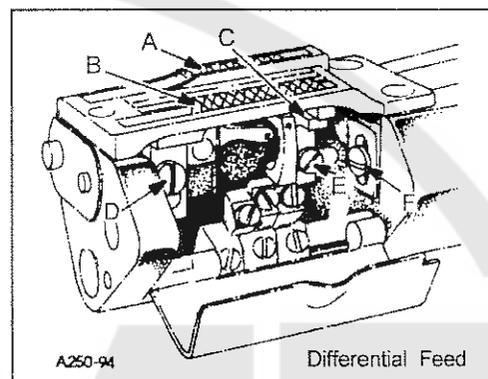

FIG. 11A
Before assembling the main and differential feed dogs, set the feed bar eccentric pin (A, Fig. 10A) located in the left side near center of cylinder, so that the slot in the head is in a horizontal position for the 35800DLU, DNU, and DZ style machines and turned counter clockwise to an approximate 45° for the 35800DWW style of machine. The pin can be used to slightly tilt both feed dogs if necessary. The feed bar pin is retained in position by set screw (B). Assemble differential feed dog (A, Fig. 11A), main feed dog (B) and throat plate. Both the main and differential feed dogs can be individually adjusted to height. Main feed dog (B) at its highest position, should be set to project above the throat plate, the depth of its teeth. If adjustment is necessary loosen screw (D) and move feed dog (B) up or down to attain correct setting. Feed dog support (C) should support front of feed dog.
If adjustment is necessary loosen screw (E, Fig. 11A) in feed dog support (C) and move as required. Retighten screw (E). The differential feed dog (A) may then be leveled with main feed dog (B). If adjustment is necessary loosen screw (F) and move feed dog up or down as required. Retighten screw (F).
NOTE: Should the main feed dog require repositioning due to contact with the throat plate in its forward or rearward travel, loosen set screw (C, Fig. 10A) in main feed bar driving link (D), rotate main feed bar eccentric driving stud (E) as required. Driving stud (E) has a thin hexagon head with cutouts on two of the flats allowing movement by tapping with a sharp pointed tool, when wrench 21388AZ is not available. Whenever the main feed bar eccentric driving stud position has been changed, recheck rear needle guard setting, adjustment may be required. Retighten set screw (C). Position main feed dog support (C, Fig. 11A) flush against bottom of main feed dog (B), tighten support screw (E) securely.